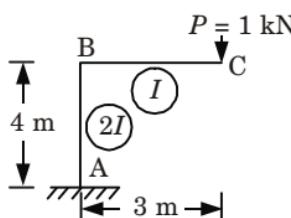

Fig. 2.
- d. Determine the vertical deflection at point C in the frame shown in Fig. 2. Given  $E = 200 \text{ kN/mm}^2$  and  $I = 30 \times 10^6 \text{ mm}^4$ .